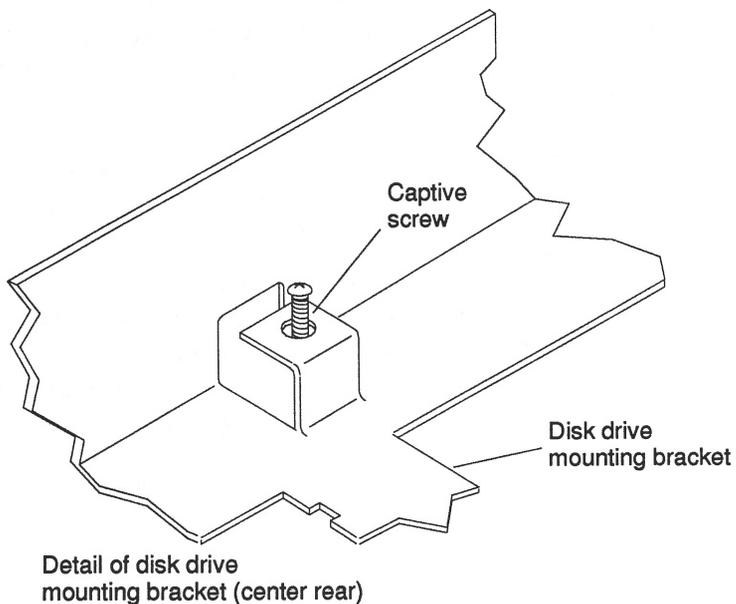

Figure 5-10 Detail of Disk Drive Mounting Bracket
8. Back off the captive Phillips head screw in the center rear of the bracket (closest to the power supply). Refer to Figure 5-10.